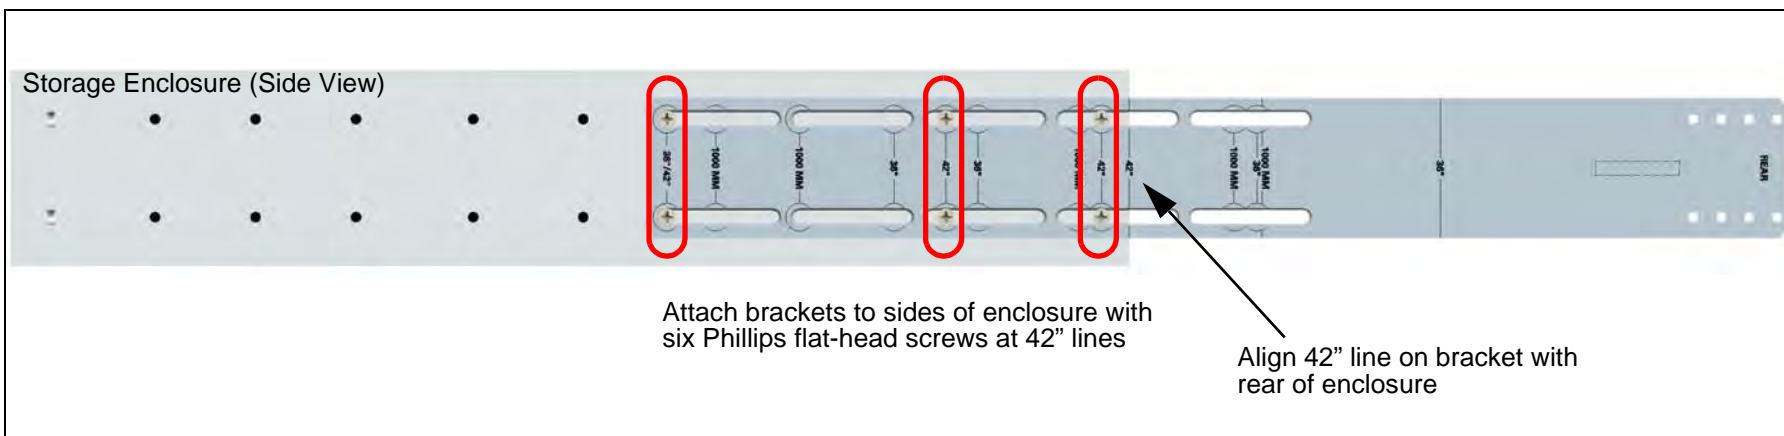

Figure 2.12 - Storage Enclosure Install, Four-Post Rack, Front Mount (42-inch Rack)
- 42-inch rack (see Figure 2.12)